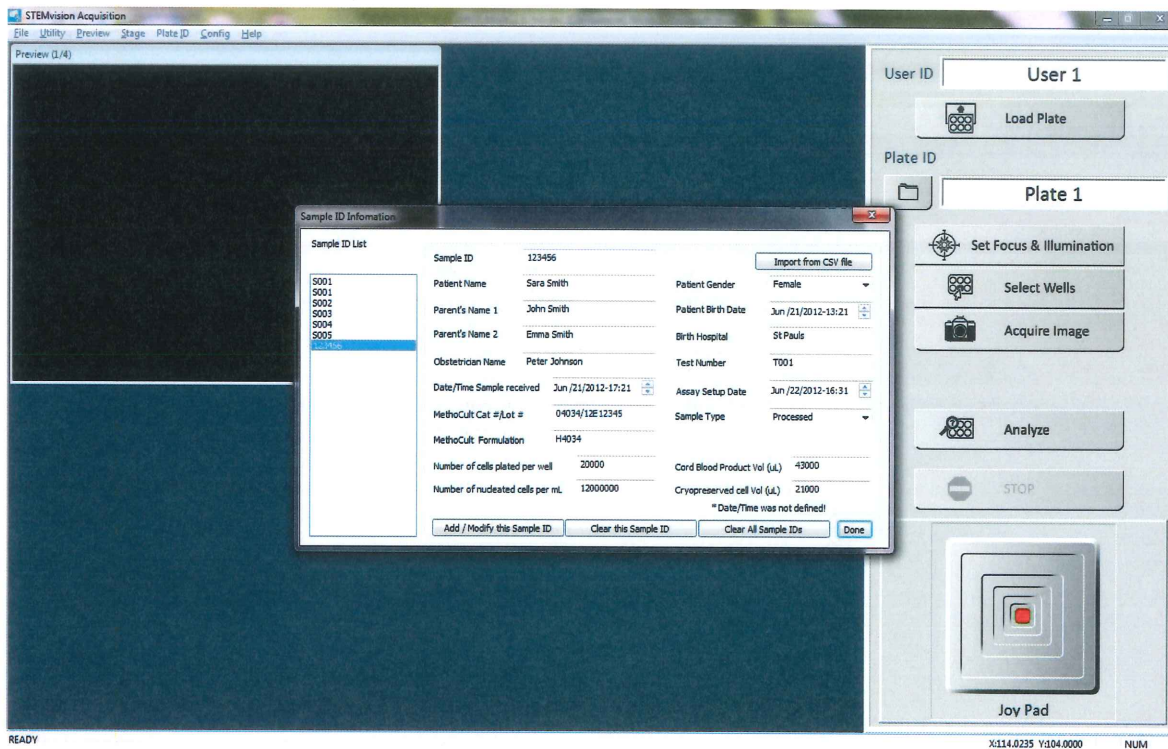

Figure 6: Sample ID Information Dialog Box.
3. Click the "Import from CSV file" button in the new dialog box and browse to select the populated CSV file. The list of samples extracted from the CSV file will appear on the left side of the dialog box window under "Sample ID List" (Figure 6).
3. Click the "Add/Modify this Sample ID" button when finished populating the fields. The sample will appear on the left side of the dialog box under "Sample ID List" (Figure 6).
In addition to the CB specific sample information entered in the "Sample ID Information" dialog box (Figure 6), customized sample information can be entered in up to 4 UDFs.